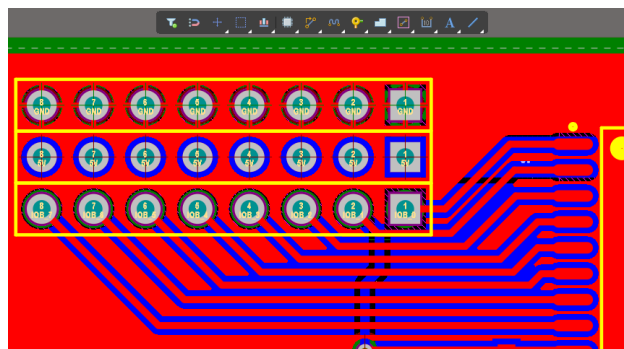

Figure 15. Routed nets with the repoured polygons
33. Repeat the previous steps for the other three (3) Un-Routed Net Constraint violations in the *PCB Rules and Violations* panel. Ensure you have enough clearance for the rest of the connections to be routed.
35. If needed, repour the polygon by going to **Tools » Polygon Pours » Repour All**. The polygon will then look similar to Figure 15. Your polygon may repour automatically if that *Preference* option is enabled.